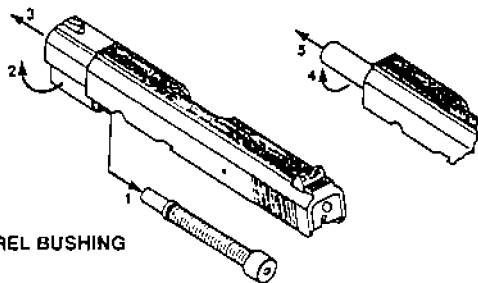

FIGURE 8—BARREL BUSHING
5. Remove cam block complete with trigger and sear by lifting it out of receiver (1).
6. Separate trigger and sear from cam block (2). Now see Figure 8.
7. Pull recoil spring assembly out of barrel bushing (1).
8. Grip slide firmly in one hand and barrel bushing in the other. Turn barrel bushing 45° or 90° to right or left (2).